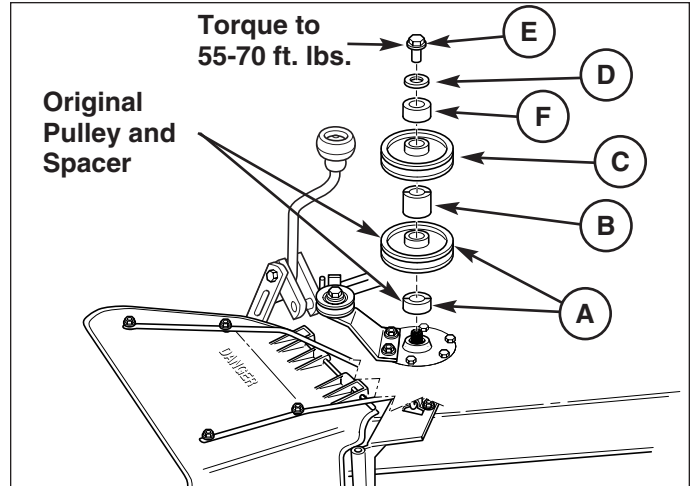

Figure 10. Install Turbo Drive Pulley
1. See Figure 10. Remove the arbor drive belt from the right side arbor pulley.
2. Remove and discard the flange nut and spring washers securing the arbor pulley and spacer (A). Retain the pulley and spacer (A).
3. Install the new spacers (B & F), turbo drive pulley (C), spring washer (D), and sleeve nut (E). Be sure the notches in the pulleys and spacers are aligned. Install the spring washer concave side down. Torque the sleeve nut to 55-70 ft. lbs. (74-95 N.m).